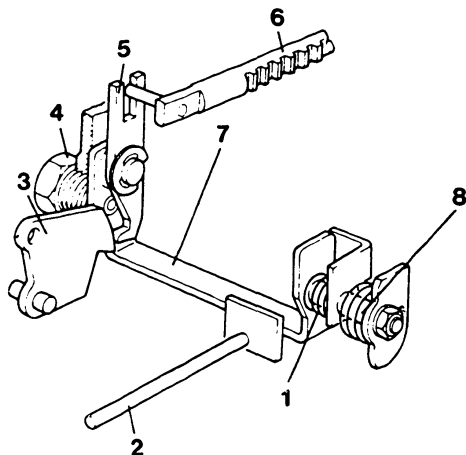

Fig. 44 Internal construction of the governor
- 2 = Pushrod (2)
Fig. 44 shows a partial view of the internal construction of the governor. The U-shaped lever which contacts pushrod (2) is supported by the load control lever shaft and the guide screw installed in the outside face of the governor, and can move freely.
Internal governor construction is exactly the same as that of the standard-type aneroid compensator equipped governor (see Fig. 44).